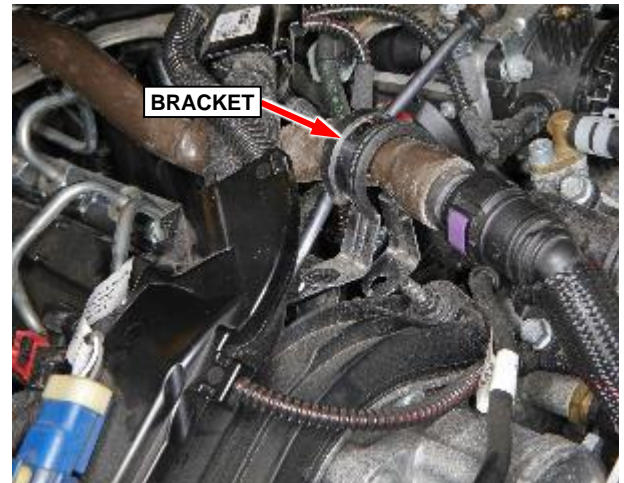

Figure 106 – Front Coolant Hose Bracket
- 24. Remove fasteners from coolant hose support brackets at the front and rear of the engine (Figure 106 and 107).